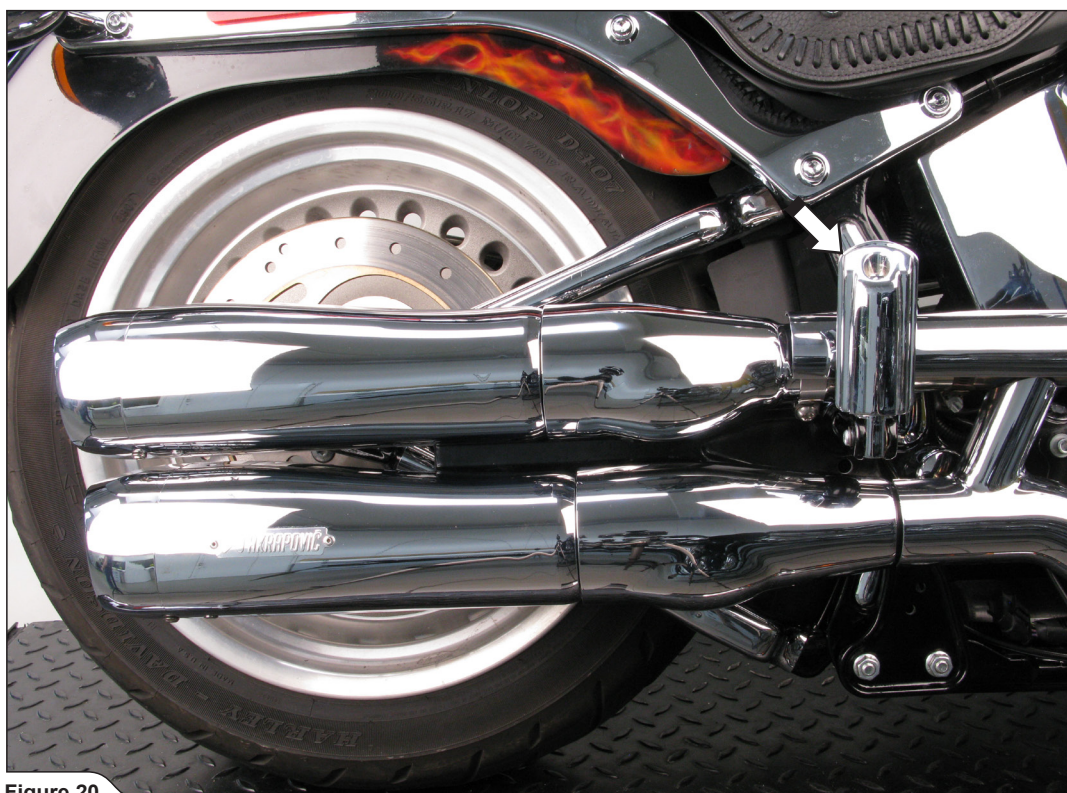

Figure 20
10. Reinstall the footrest bracket and footrest (Figure 20).